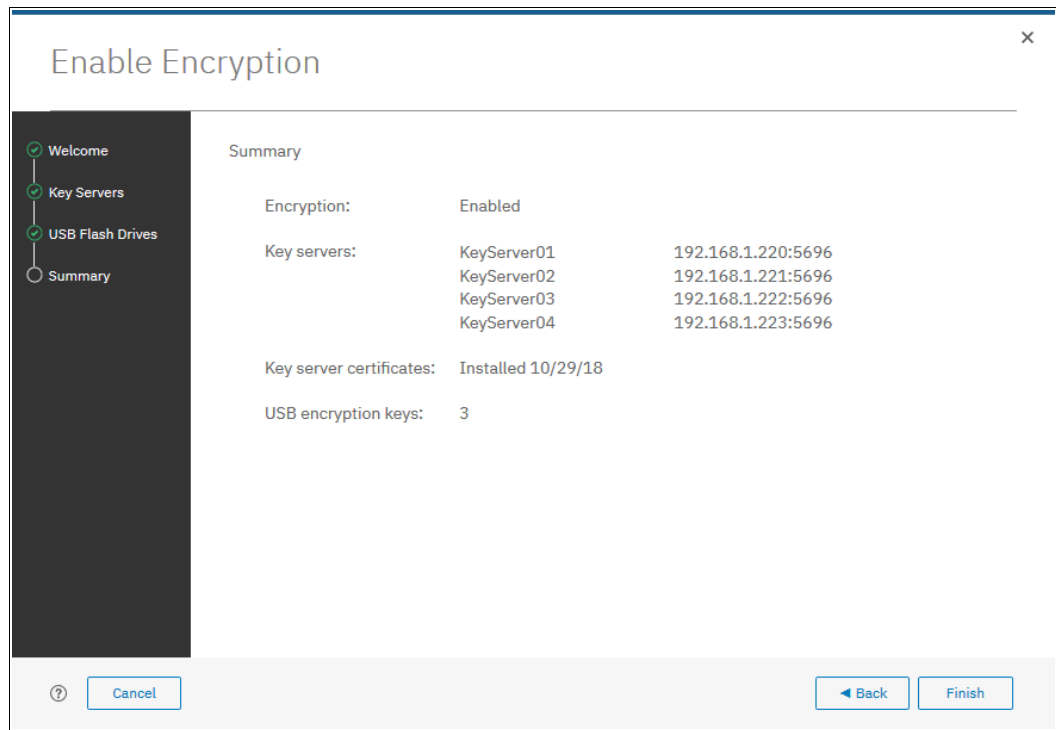

Figure 13-54 Encryption configuration summary in two providers scenario
5. After copying encryption keys to USB flash drives, the next window is shown with the summary of the configuration that is implemented on the system (see Figure 13-54). Click **Finish** to create the key server object and finalize the encryption enablement.